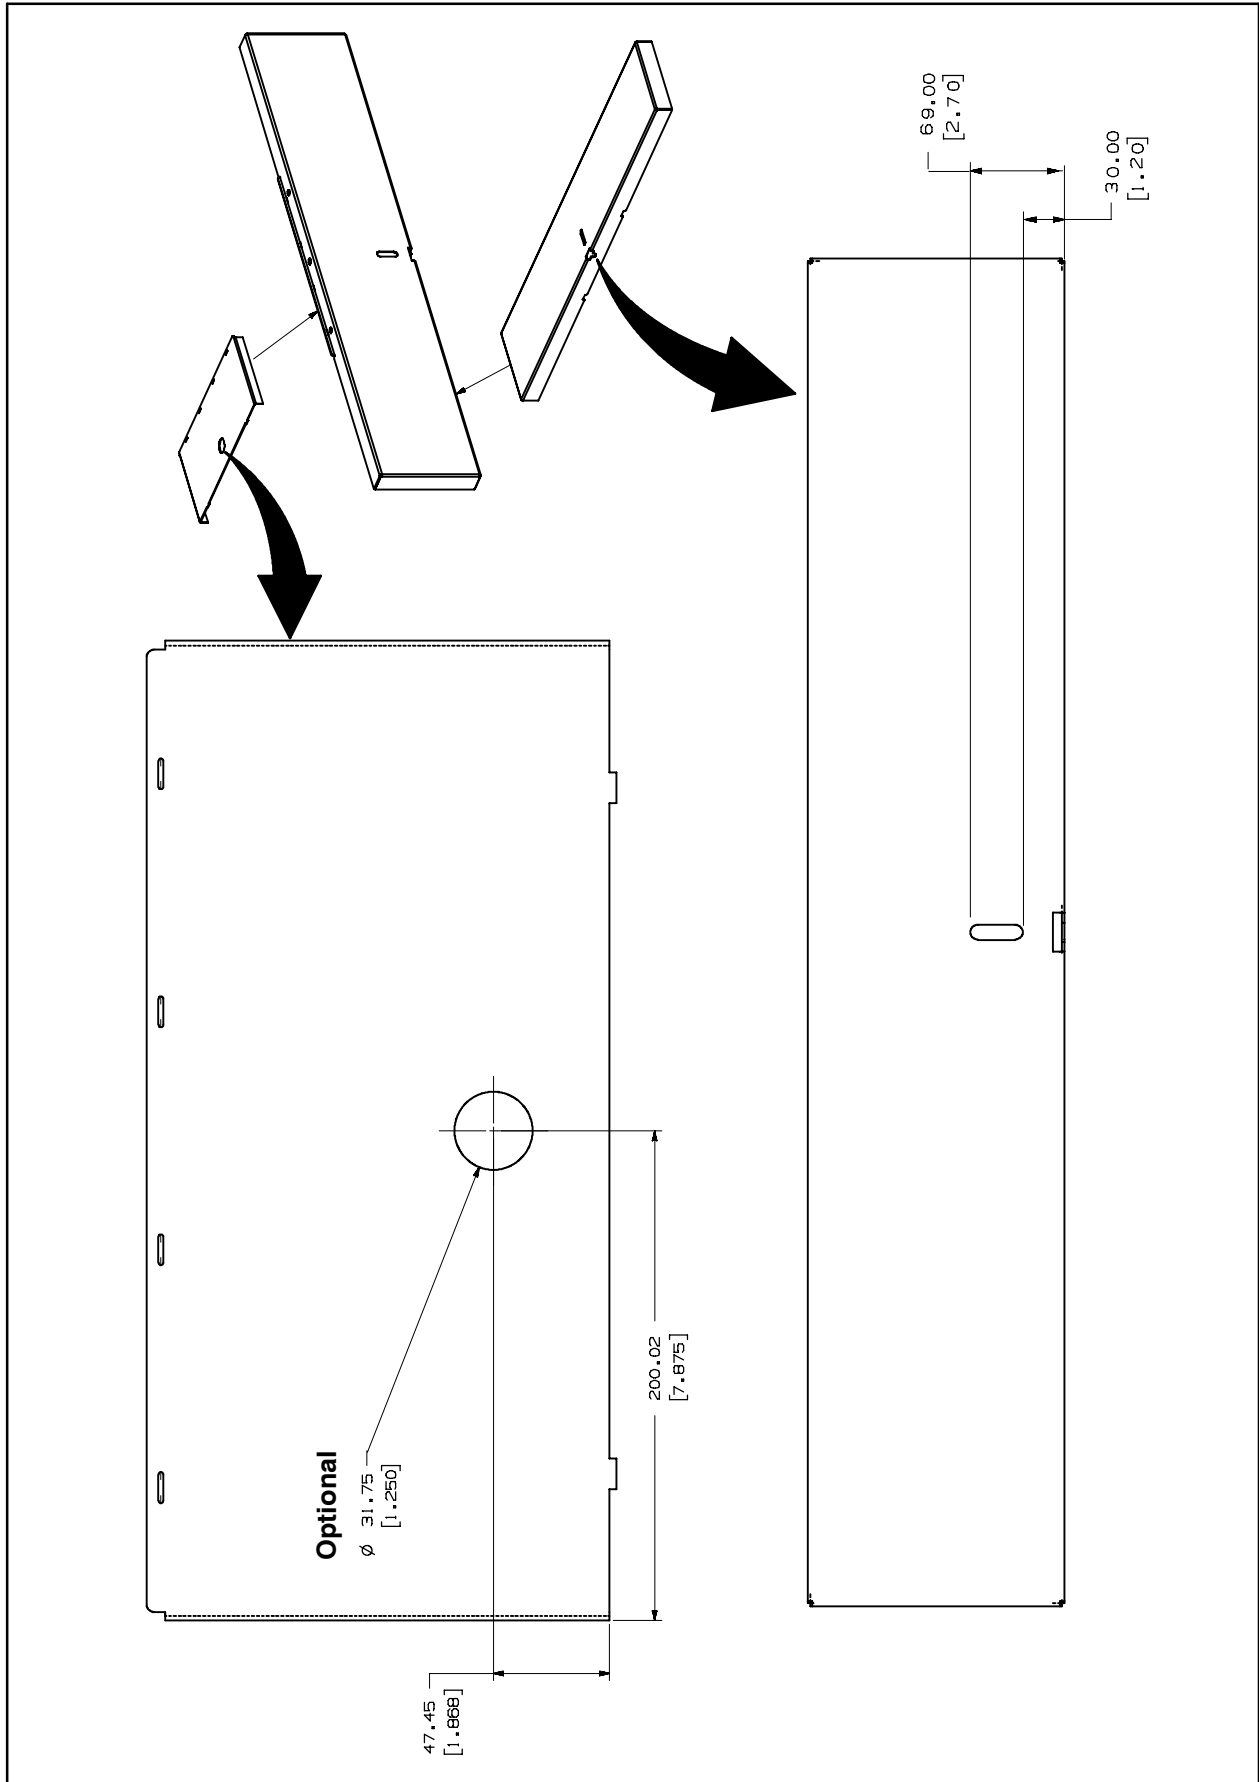

FIG. 6
3. If necessary, alter the dimension of the slot in the front the access door. Refer to Fig. 6 for the dimensions for the slot.
5. **OPTIONAL:** Cut a hole into the back of the access door. Refer to Fig. 6 for the dimension and location for the hole. This hole is necessary for installing the hex nut (6) to secure the latch assembly inside the hopper access door.